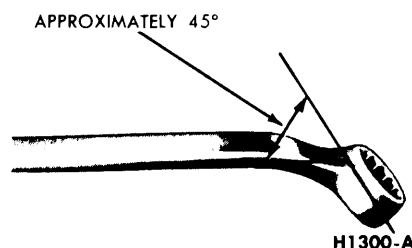

FIG. 4—Wrench for Bleeding Brake
1. Position a bent 3/8-inch box wrench on the bleeder fitting on the right rear brake wheel cylinder (Fig. 4). Attach a rubber drain tube to the bleeder fitting. **The end of the tube should fit snugly around the bleeder fitting.**
3. Position a 3/8-inch box wrench on the bleeder fitting on the right rear brake wheel cylinder (Fig. 4). Attach a rubber drain tube to the bleeder fitting. **The end of the tube should fit snugly around the bleeder fitting.**